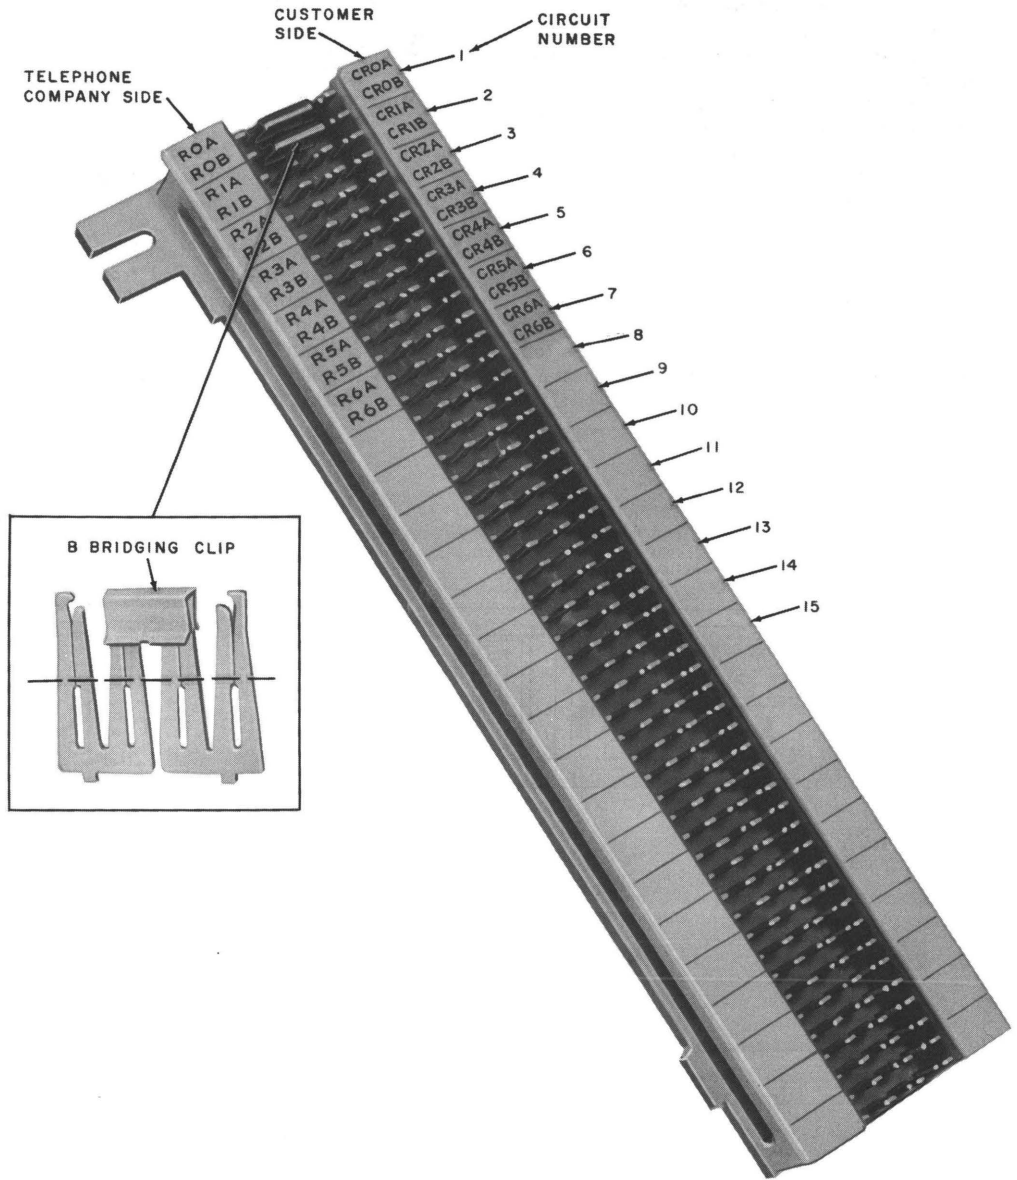

Fig. 2—66M1-50 Interface Connecting Block
- Block, Connecting, 66M1-50 (Fig. 2)
- Clip, Bridging, B (25 per pack, Fig. 2)
3.05 Connect R()A and R()B output leads to D4A terminal strips on J92614E-1 interface unit using a hand-operated wire-wrap tool. Extend R()A and R()B output leads to 66M1-50 interface connecting block and terminate. Stencil lead designations on designation strip as shown in Fig. 2. The customer must terminate the CP equipment to the interface connecting block using the terminals stenciled on the customer side.